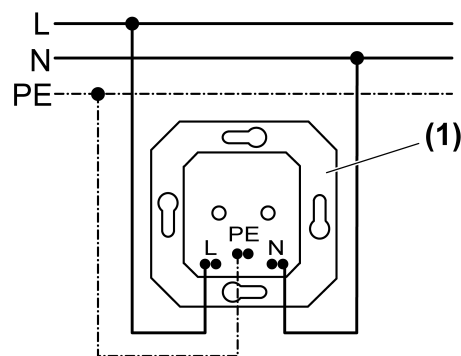
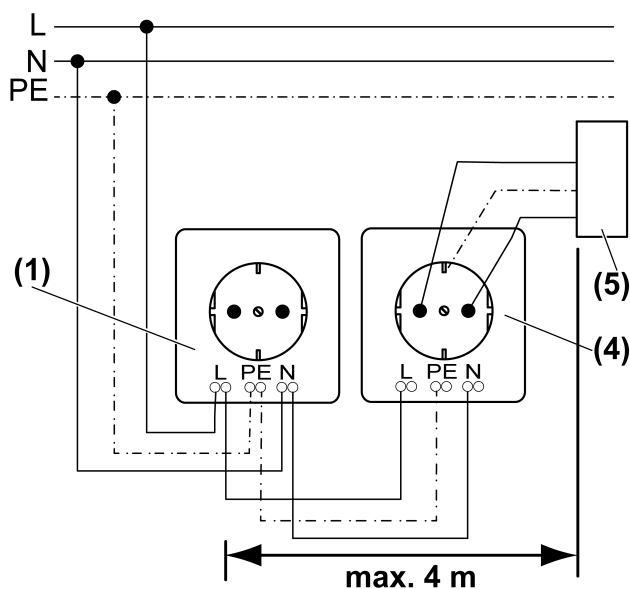

Figure 2: Connection diagram for single socket outlet
Figure 3: Connection diagram for socket outlet combination
- (1) Surge protection socket outlet
- (4) Socket outlet with normal design
- (5) Load
- Connect surge protection socket outlet according to connection diagram for single socket outlet (Figure 2) or connection diagram for socket outlet combination (Figure 3).